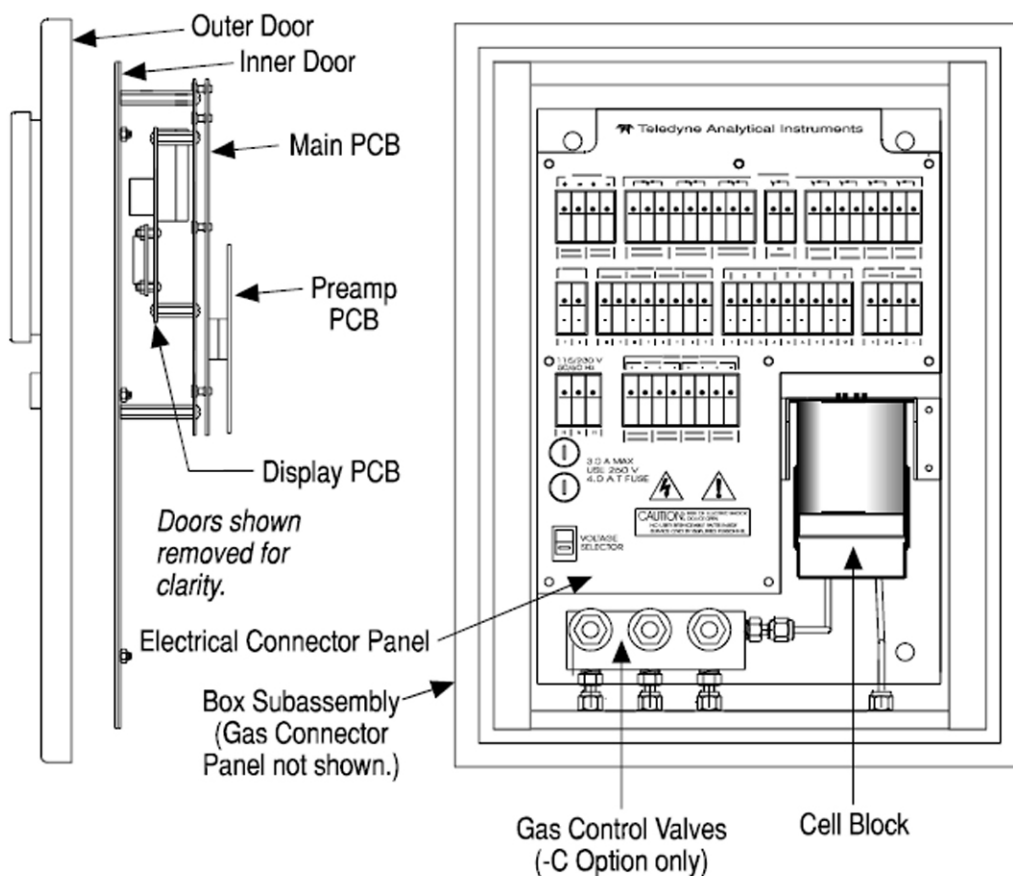
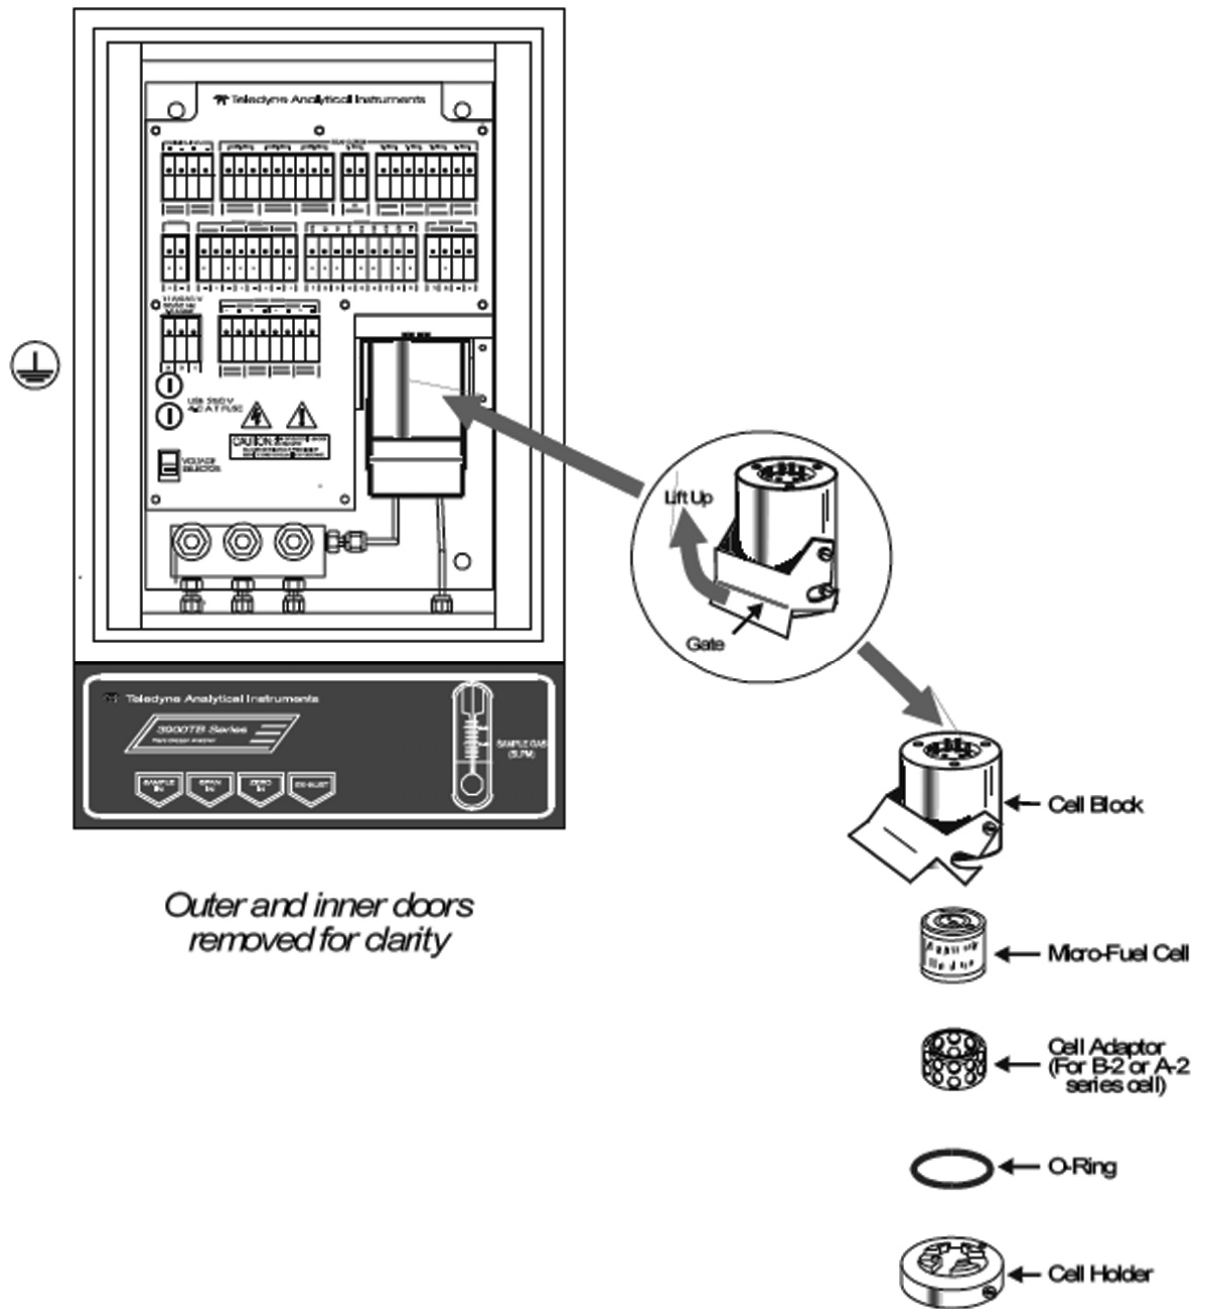
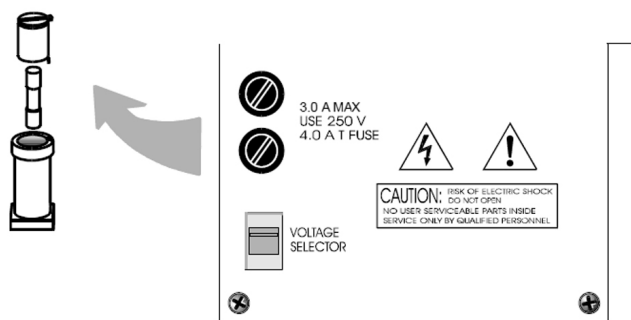

Figure 5-1: Major Internal Components
Figure 5-2: Exploded View of Cell Block and Micro-Fuel Cell
Figure 5-3: Removing Fuse Cap and Fuse from Holder
All internal components are accessed by unlatching and swinging open the front cover, as described earlier. The major internal component locations are shown in Figure 5-1, the cell block is illustrated in Figure 5-2, and the fuse receptacle is shown in Figure 5-3.
The Micro-Fuel cell is located inside the stainless steel cell block behind the front panel (see Figure 5-1). To remove an existing cell:
2. Place a small screwdriver in the notch in the fuse holder cap, push in, and rotate 1/4 turn. The cap will pop out a few millimeters. Pull out the fuse holder cap and fuse, as shown in Figure 5-3.